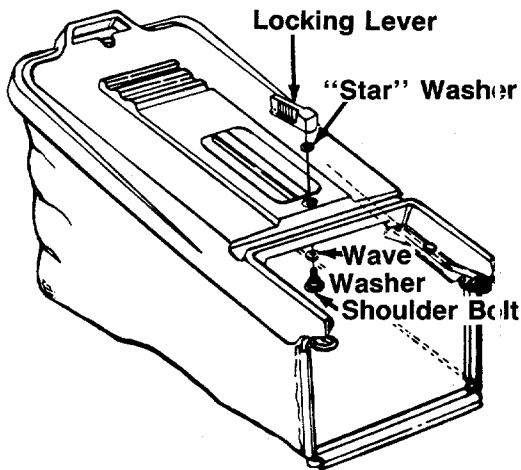

FIGURE 10.
- b. Insert shoulder bolt up through hole in hardtop cover as shown in figure 10. Place "star" washer over shoulder bolt.